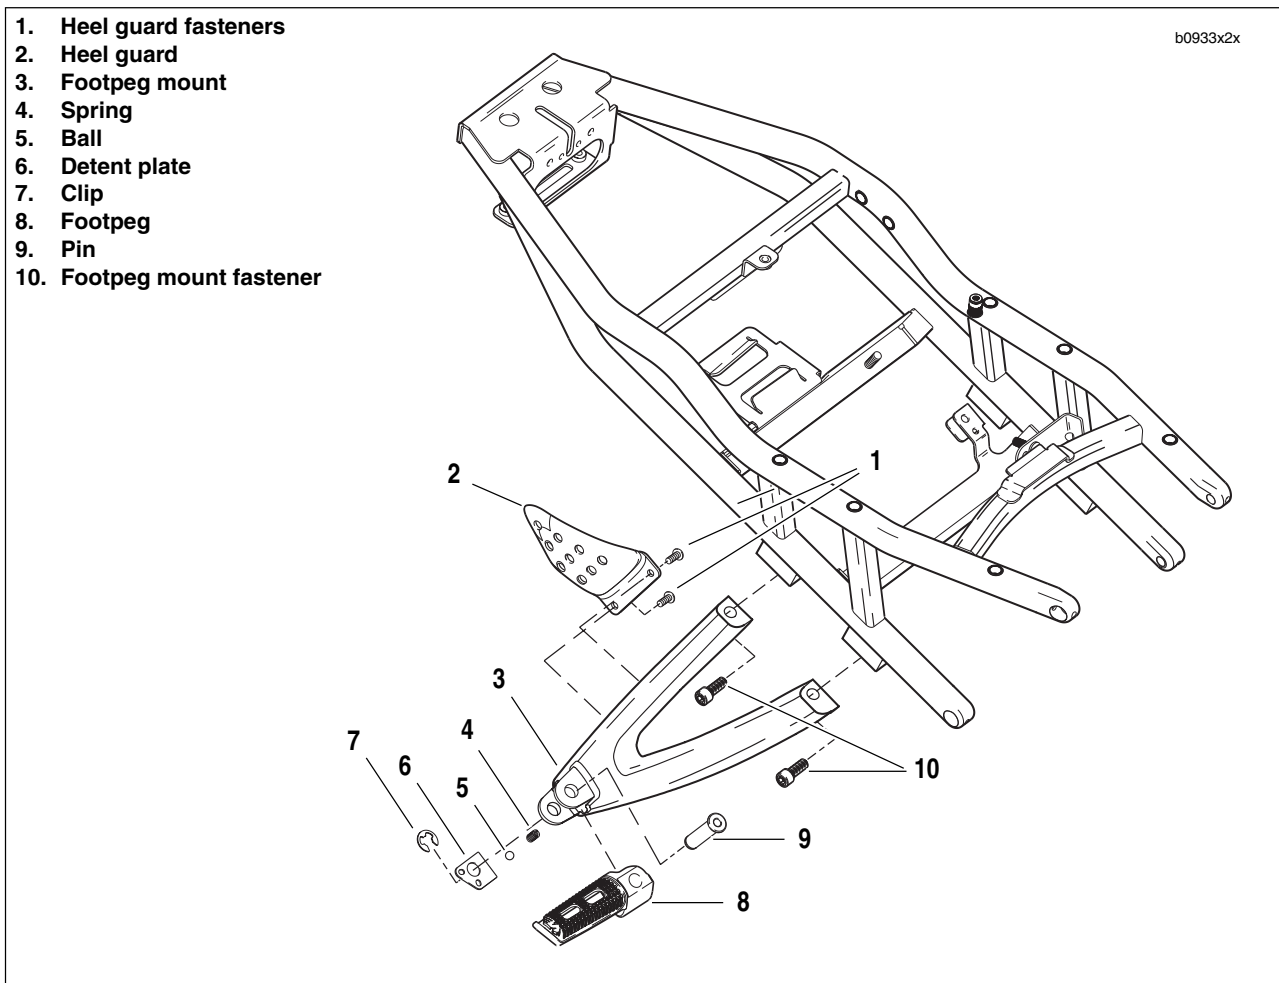

Figure 2-107. Passenger Footpeg, Mount and Heel Guard Assembly
1. See Figure 2-107. Remove clip (7).
2. Remove footpeg pin (9).
3. Remove footpeg (8), detent plate (6), ball (5) and spring (4).
1. See Figure 2-107. Remove heel guard fasteners (1).
2. Remove heel guard (2).
1. See Figure 2-107. Remove footpeg mount fasteners (10).
2. Remove footpeg mount (3).
1. See Figure 2-107. Position footpeg mount (3) onto sub-frame tail assembly.
2. Install footpeg mount (3). Using LOCTITE 272 tighten, fasteners (10) to 25-28 ft-lbs (34-38 Nm).
1. See Figure 2-107. Position heel guard (2) onto footpeg mounts (3).
2. Install heel guard (2).
1. See Figure 2-107. Position footpeg (8), detent plate (6), ball (5), and spring (4) on to footpeg mount (3).
2. Install footpeg pin (9).
3. Install clip (7).